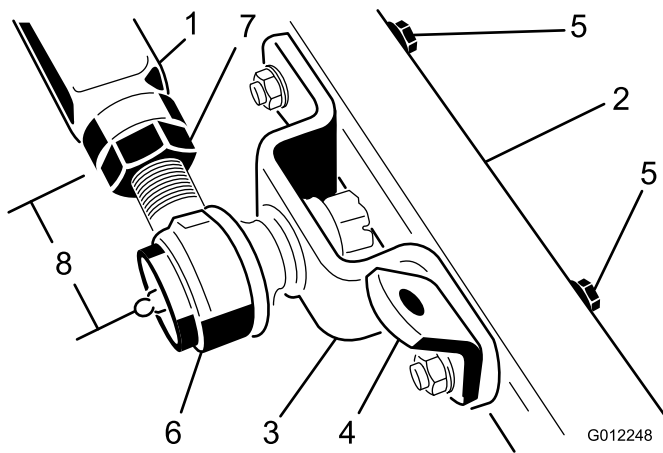

Figure 7
1. Remove the 2 capscrews, flat washers, and flange nuts securing the left-hand ball joint mount and chain bracket to the left-hand castor arm (Figure 7). Remove the ball joint mount and chain bracket.
2. Remove the cotter pin and castle nut securing the left-hand ball joint mount to the left-hand push arm on the traction unit. Install the ball joint mount (removed from the castor arm) to the push arm with the castle nut and cotter pin previously removed (Figure 7).
3. Measure the distance from the end of the left-hand push arm to the center of the ball joint (grease fitting) (Figure 7). The distance should be 2-1/2 inches (64 mm). If the distance is not 2-1/2 inches (64 mm), loosen the jam nut securing the ball joint to the push arm and rotate the ball joint in or out until the distance is attained (Figure 7). Do not tighten the jam nut at this time.